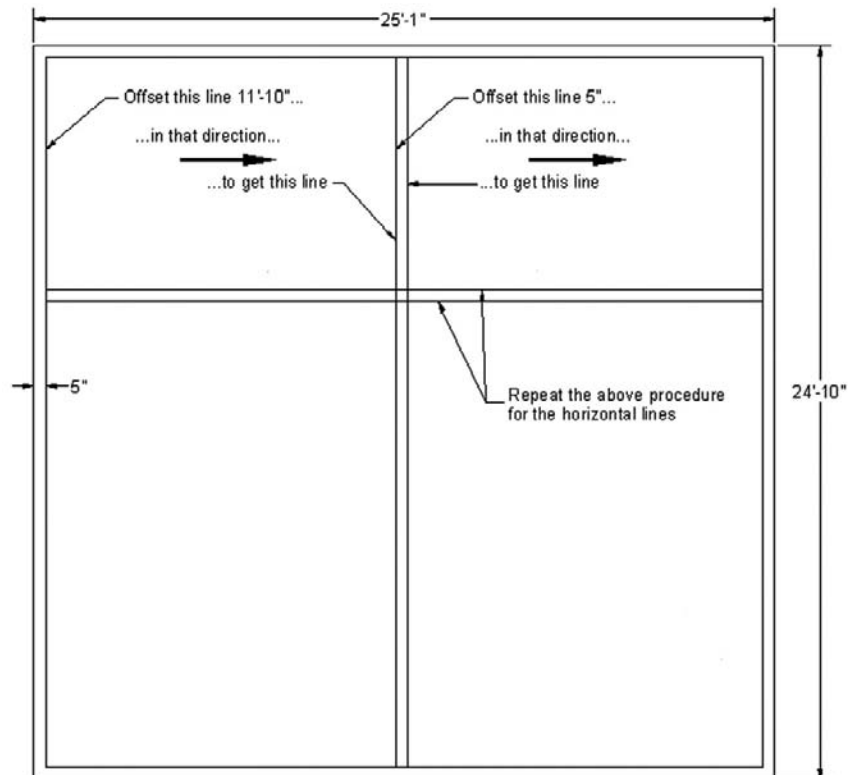

FIGURE 3.14
8. Offset the inner left vertical wall 11'-10" to the right to create part of the kitchen wall. Then, right away offset 5" for the thickness of the wall. Repeat with the inner top horizontal wall (offset 7'-10") to get the lower part of the kitchen. Offset 5" to the right for thickness. Figure 3.14 illustrates this.